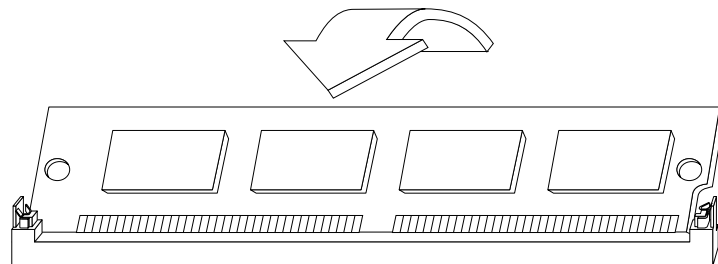

Figure 4-4 Tilting the SIMM Up to a Vertical Position
- Tilt the SIMM up into a vertical position, as shown in Figure 4-4. There should be a slight click when the SIMM reaches the vertical position as the metal latches snap up around the SIMM. The SIMM is positioned correctly when the latches on both sides of the SIMM socket are hugging the edges of the SIMM.